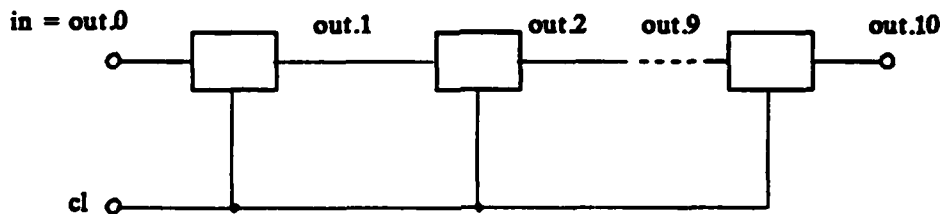

Figure 3c Shift Register (made from ms-ff)
Looking at Figure 3c, it is now easy to make the ten-bit (or any number of bits) shift register by chaining ten of the flip-flops defined in our macro library *lib.net*. We could write down the call for "msff" with the appropriate parameters ten times, but NETLIST has the facility of a loop and indexed symbols, which makes the specification of such repetitive elements as the flip-flops of the shift register very compact. (In accordance with the file name conventions, write the following network description into a file named *shift.net*.):
In most cases of such network structures, as in our shift register, the regular pattern of sub-circuits makes it possible to refer to their nodes with a collective name followed by an index. out.0, out.1, out.2, ..., out.10 (see Figure 3c) are examples for indexed node names. "out" is the collective node name for a group of nodes having a similar function or position in the network; ".0", ".1", ... are the indices uniquely identifying each of the individual nodes.
- (5) The network description using "repeat" and indexed nodes looks very compact, but a few nodes were designated cumbersome names. Rather than using the name "out.0" for the input to the shift register (see Figure 3c), we will call it "in". This can easily be accomplished with the connect command, which equates the names "in" and "out.0". Another application for the connect command is in connecting two or more nodes electrically.